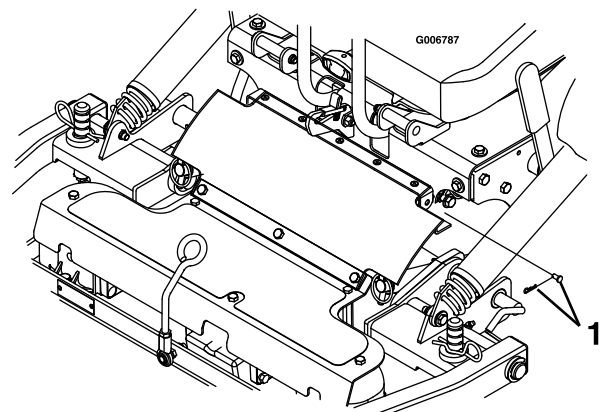

Figure 68
7. Remove the hairpin cotter and clevis pin from both sides of the PTO guard (Figure 68).
6. Align the upper portion of the rubber PTO guard to the tabs on the front of the console and secure with a clevis pin and hairpin cotter on each side (Figure 68).